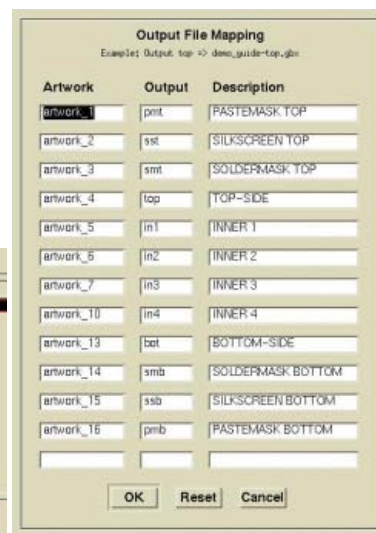

Figure 29:
4. Setup the “Output aliases” by the menu pick (see Figure 27) and change this to the design specific needs, (Delete artwork items there not exist, and update information if needed) (See Figure 29) for an example from the “Demo_guide” Design.